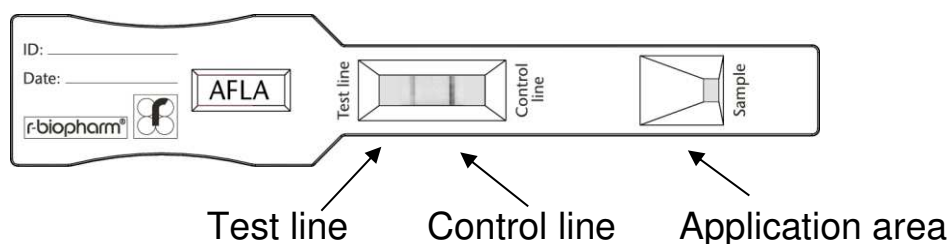

Fig. 1: RIDA®QUICK Aflatoxin RQS test strip.
- Apply 100 µL of prepared sample solution (Dilution I or Dilution II, see 8. Sample preparation) to the application area of the test strip (see Fig. 1)
The left line in the reaction area is the test band (test line, see Fig. 1). Its appearance and intensity depends on the aflatoxin concentration of the sample. The sample is contaminated with aflatoxin, if the control band (control line) is visible and the test band (test line) is also visible.